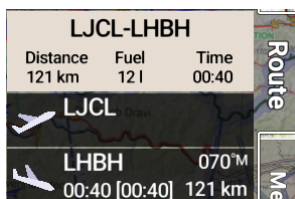

Figure 4.3: A list of waypoints after the departure and destination points were set.
- Drag the map so that you can see the destination airfield LHBH. Touch the destination airfield and confirm the selection. Figure 4.3 illustrates the waypoint list you should see on the screen.